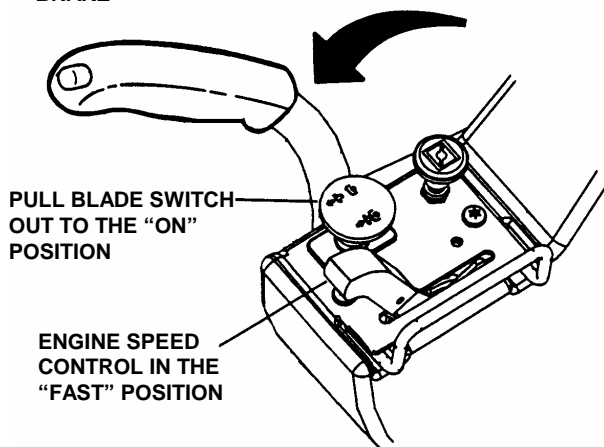

FIGURE 2.7
2. Pull the blade switch out into the "ON" position to engage the mower blades. See Figure 2.7.
3. Release the parking brake. See Figure 2.7.
1. Push the blade switch in to "OFF" position to disengage or stop the mower blades. Refer to Figure 2.7.
3. Release parking brake by pushing button at the top of lever and moving brake lever forward to the "OFF" position. Refer Figure. 2.7.